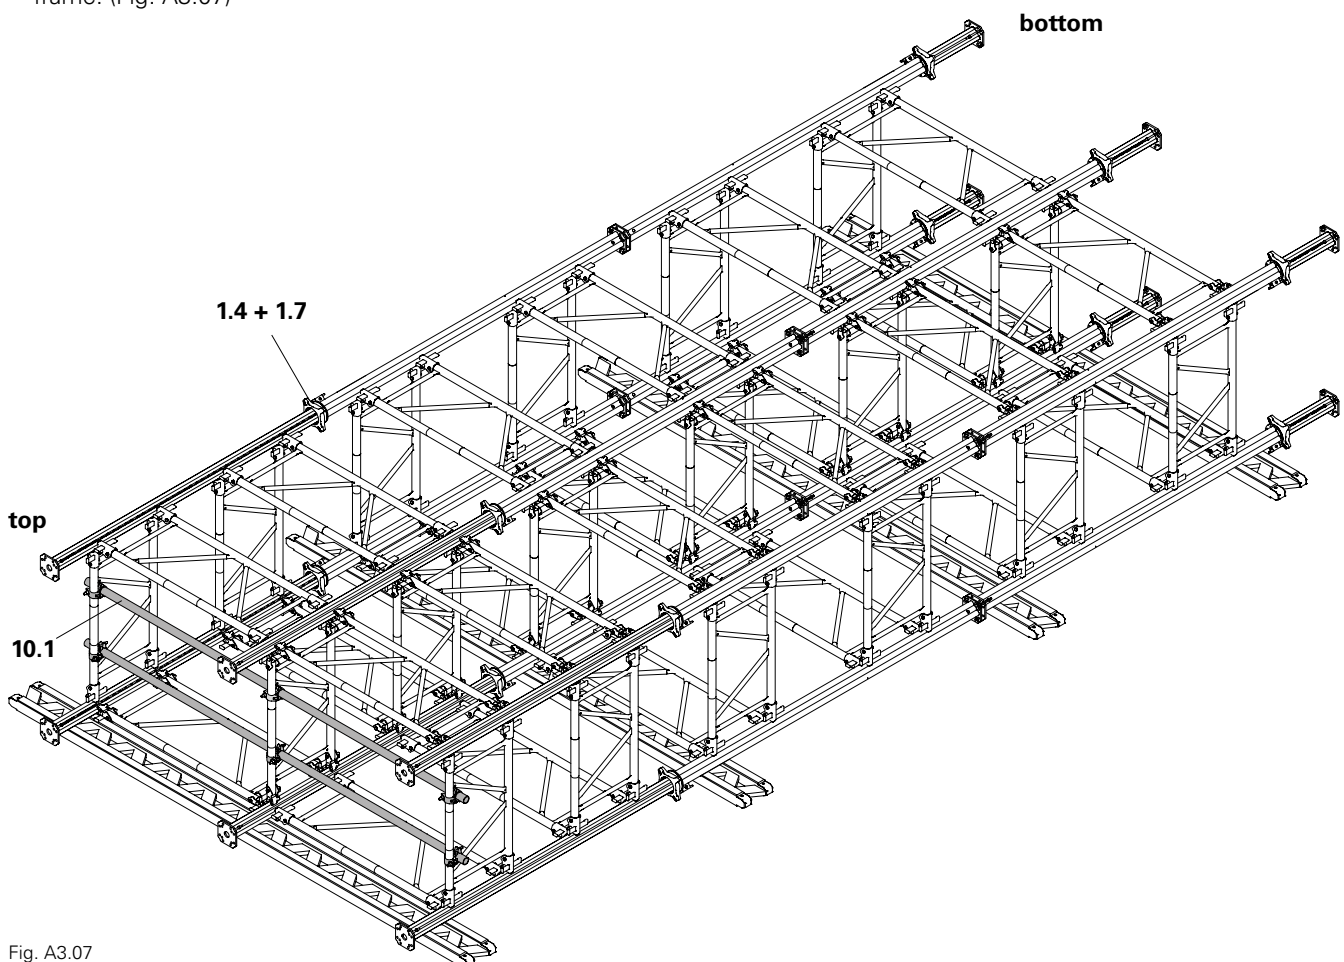

Fig. A3.07
- For the crane lifting gear, scaffold tubes (**10.1**) are to be mounted under the frame tubes of the topmost frame. (Fig. A3.07)